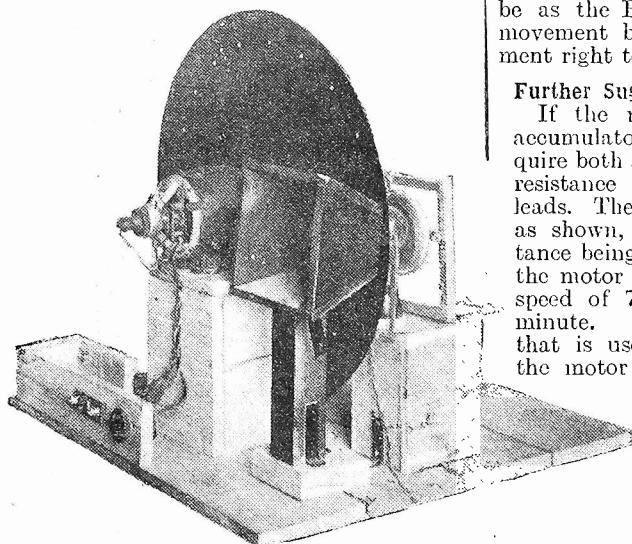

Fig. 3.—A good amateur effort of building disc television apparatus from rather crude materials.
- Drill and mount as in Fig. 5, in back of wavemeter, and back of detector end of receiver cabinet, wired to coupling coil, Fig. 3.
coupling coil, Fig. 3.
Fix slow-motion dial in place, and then wire up the tuning condenser, fixed condenser, and coil base and sockets, as shown in Fig. 3. Screw on bottom of cabinet and the wavemeter is complete.
By referring to Fig. 3 the reader will obtain a very fair impression of how a machine of